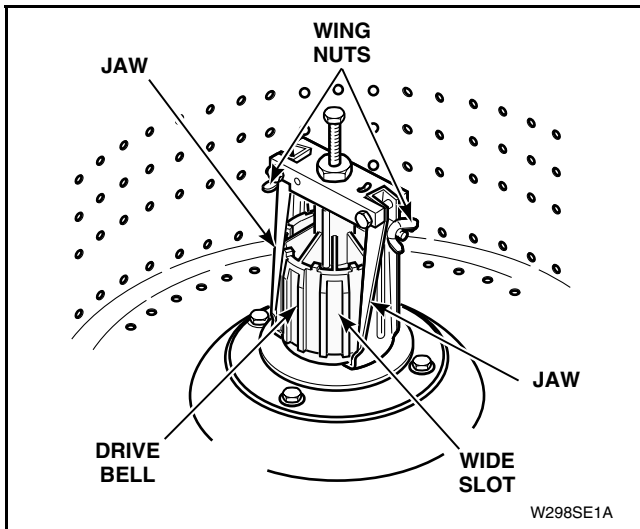

Figure 31
- Place tool over drive bell, making sure indent on jaws line up with wide slots on drive bell. Refer to *Figure 31*.
- h. Place lip of each jaw under bottom edge of drive bell, making sure indent on jaws line up with wide slots on drive bell. Tighten wing nuts on tool to hold jaws firmly against drive bell. Refer to *Figure 31*.